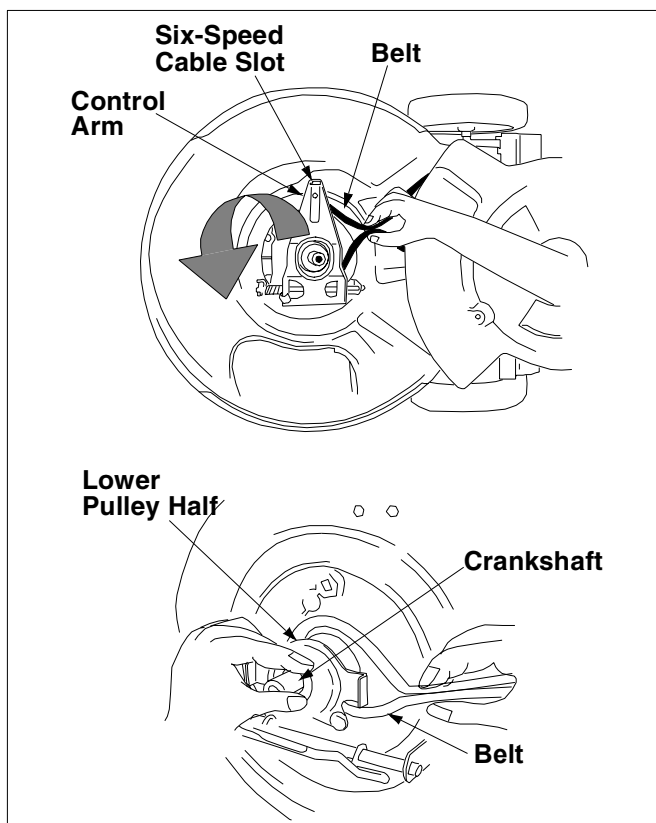

Figure 21
- Squeeze the belt together and push it forward, while pressing the control arm inward towards the deck and remove the six speed cable from the slot. See Figure 21.
- Lift off the lower pulley assembly and remove the old belt from around the crankshaft. See Figure 21.
- Place the new belt over the transmission pulley. Start the belt in the pulley groove and rotate the pulley until the belt is seated in the transmission pulley. Refer to Figure 21.